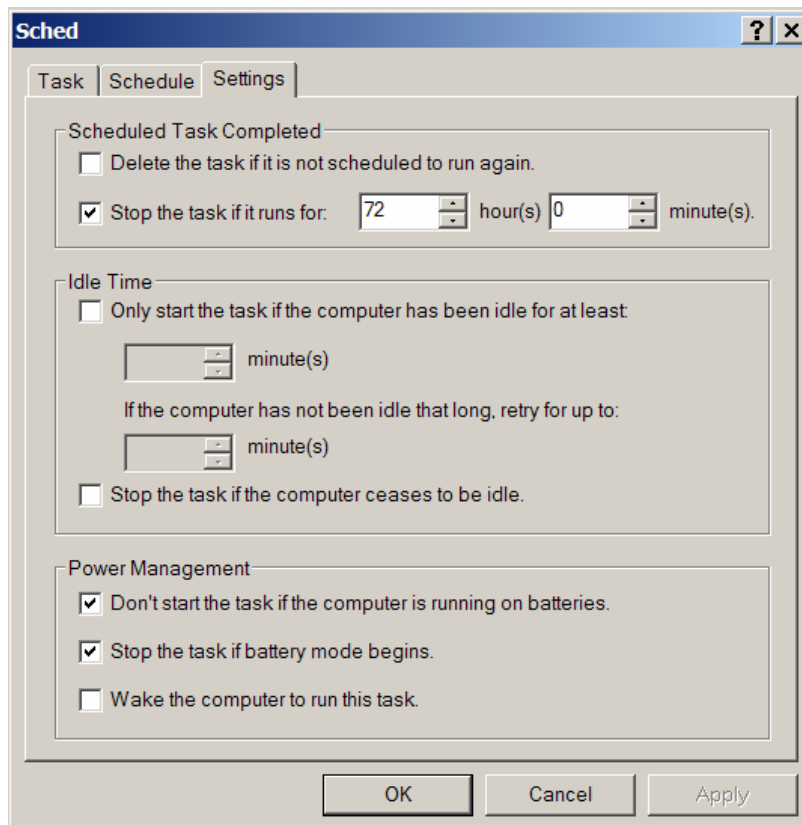

Figure 5. Do not change the Settings configuration.
13. Do not make any changes to the values under the **Settings** tab. See figure 5 below.